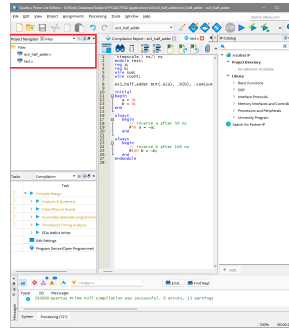

Figure 14: Open "Files" option
5. Click "Files" in the "Project Navigator" window. (Figure 14)